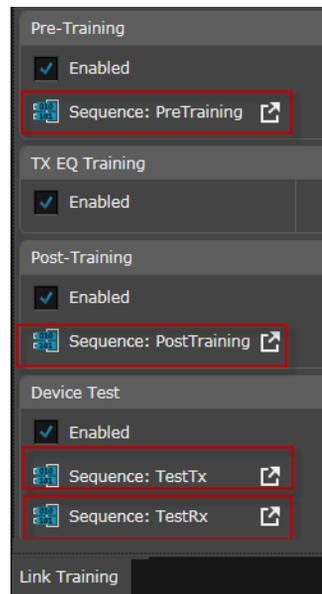

Figure 15 Sequence Editor Window
- Click any of the sequences in the user interface window of the plug-in as shown (red boxes) in Figure 15: